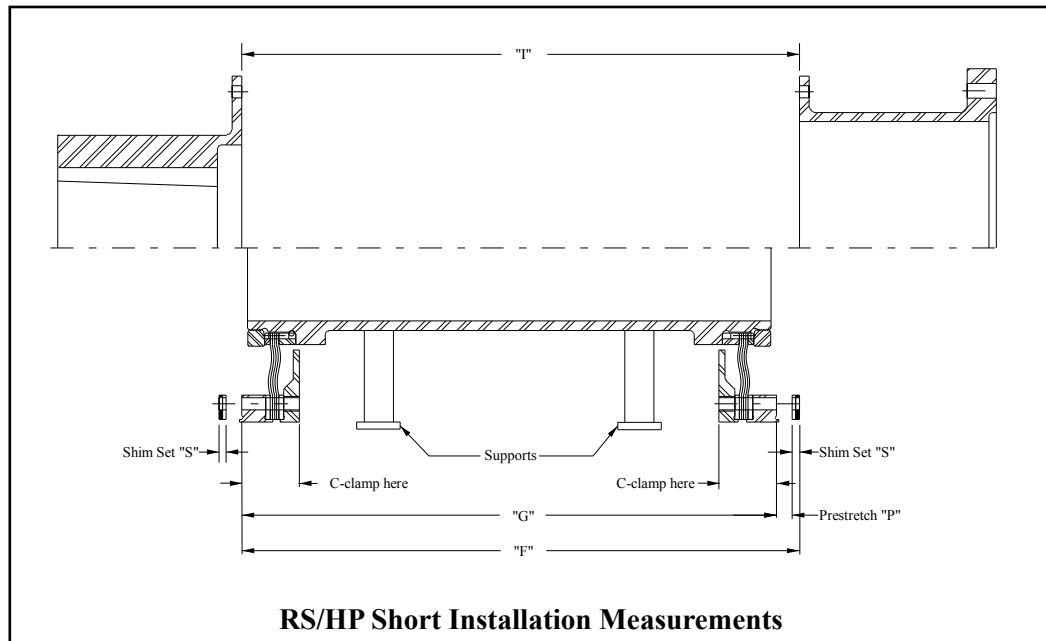

Figure 4-9
4.4.3.1 Measure and record , on the worksheet provided in Paragraph 4.4.5, the installation length “I” (distance between mounted flange faces) at four (4) places approximately 90° apart (see Figure 4-9).
4.4.3.2 Assemble the spacer rings, as shown on the Ameridrives Sales Drawing, onto both ends of the diaphragm pack sub-assembly taking care to re-align the matchmarks and end identification letters. Install a minimum of four (4) bolts approximately 90° apart through each spacer ring and tighten the bolts evenly in a crisscross pattern to seat the pilots. On some size couplings the grip length of the bolts is too long to allow seating of the pilots in this manner. When this condition exists, a spacer plate, washers, shorter bolts, or C-clamps (not supplied) may be required to seat the pilots. Support as shown in Figure 4-9).
4.4.3.3 Measure and record, on the worksheet in Paragraph 4.4.5, the coupling free length “G” (distance between spacer ring outer flange faces) at four (4) places approximately 90° apart. It is recommended that C-clamps be used to compress the diaphragm pack at the location the measurements are being taken (see Figure 4-9).